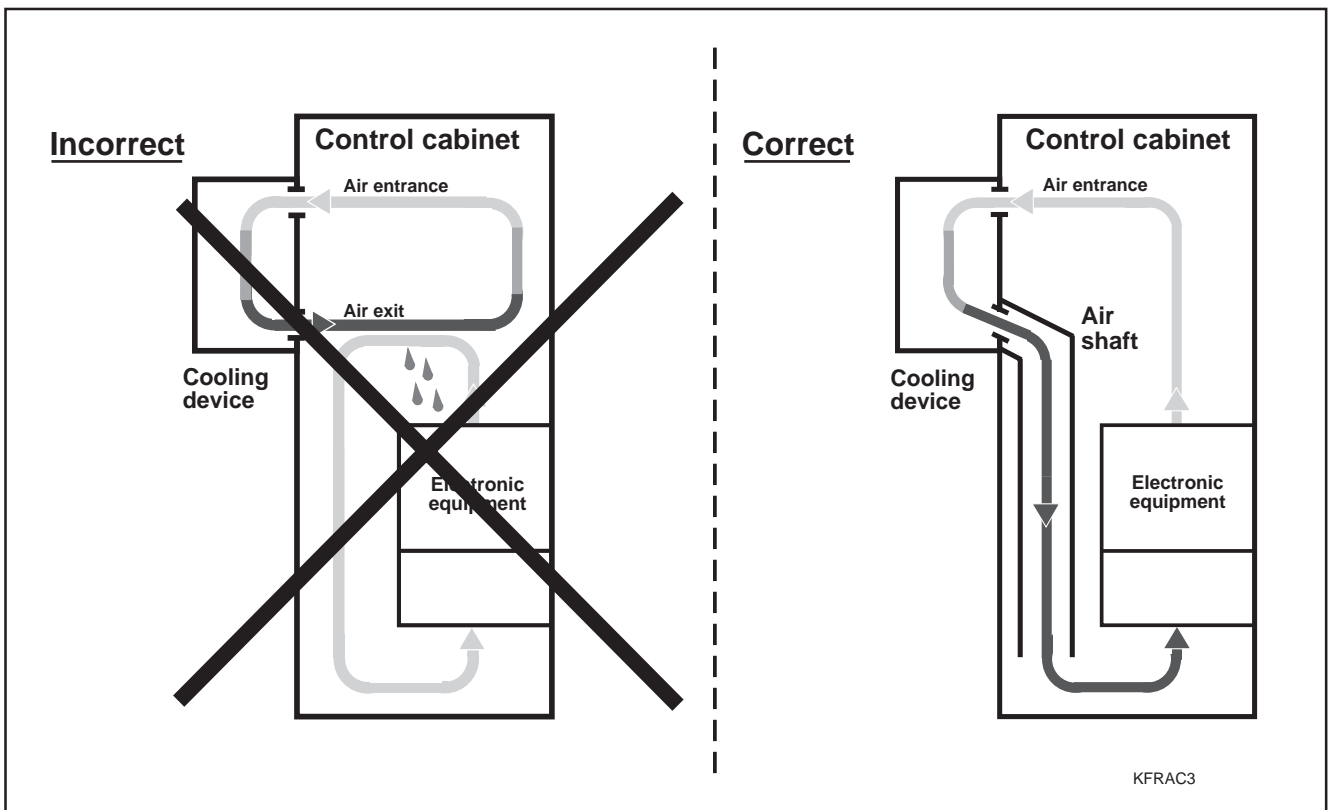

Figure 2.13: Placing the cooling device on the front of the control cabinet
- Construct the control cabinet in such a way that the cooling device fan cannot blow the condensation water formed during shut downs onto the drive controller (see Fig. 2.13)!